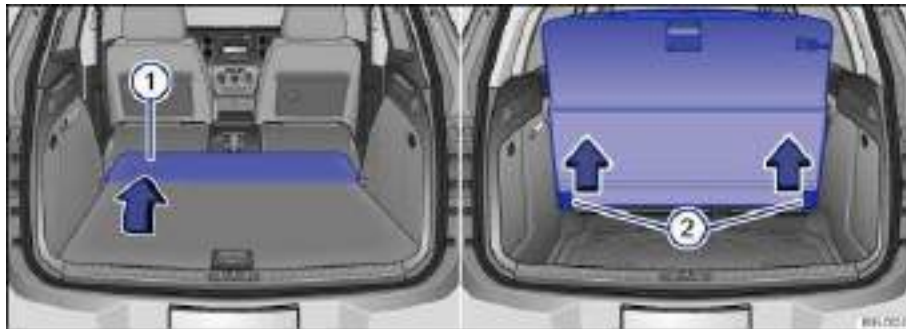

Fig. 106 Extending the luggage compartment floor forward or downward.
- Fold the cover forward ⇒ fig. 106 \(1\).